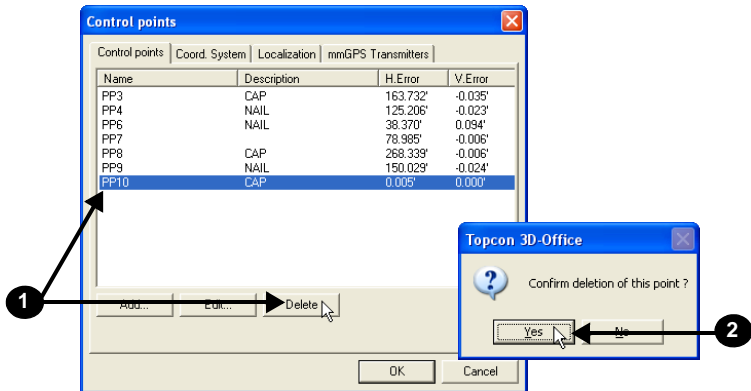

Figure 2-15. Select the Control Point to Delete and Confirm
3. Press **Delete** (Figure 2-15 on page 2-13).